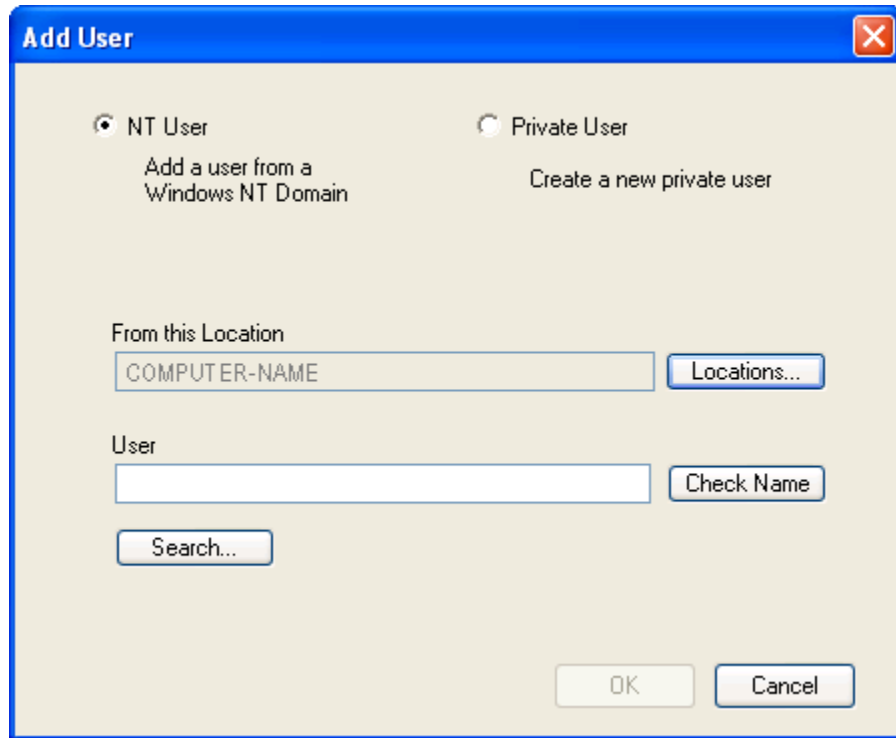

Figure 48 - Add User Window (NT)
2. The **Add User** window (Figure 48) appears. The **NT User** option button is selected by default. This will allow the addition of a user from a Windows NT Domain.
2. The **Add User** window (Figure 48) appears.